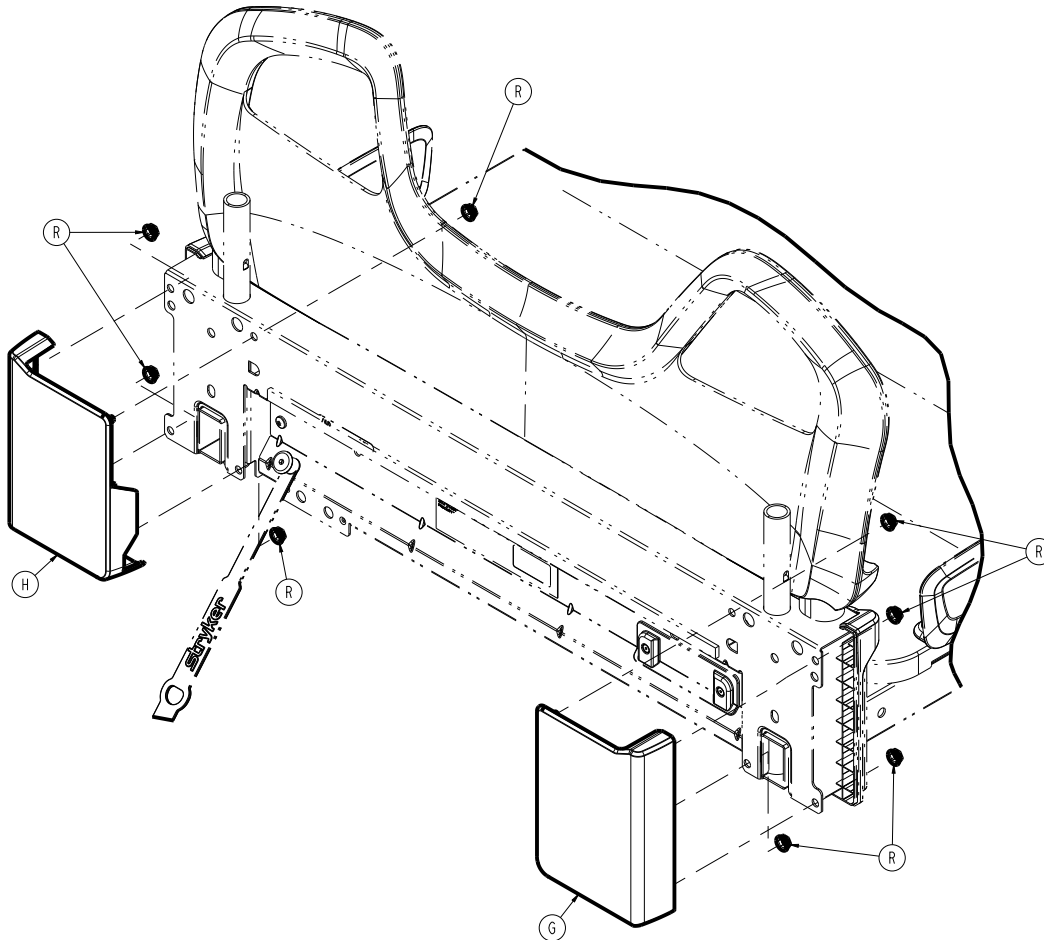

Figure 27 – Replacing the bumper
5. Using a 7/16" nut driver, remove the four nuts (R) that secure the rear head bumper (G, H) (Figure 27). Save the nuts. Remove and discard the bumper.